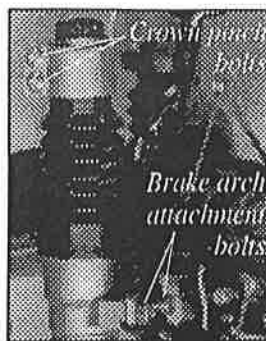

Fig. 1
1. Remove the brakes and brake arch attachment bolts (Fig. 1). Remove the brake arch.
2. Remove the crown pinch bolts (Fig 1).